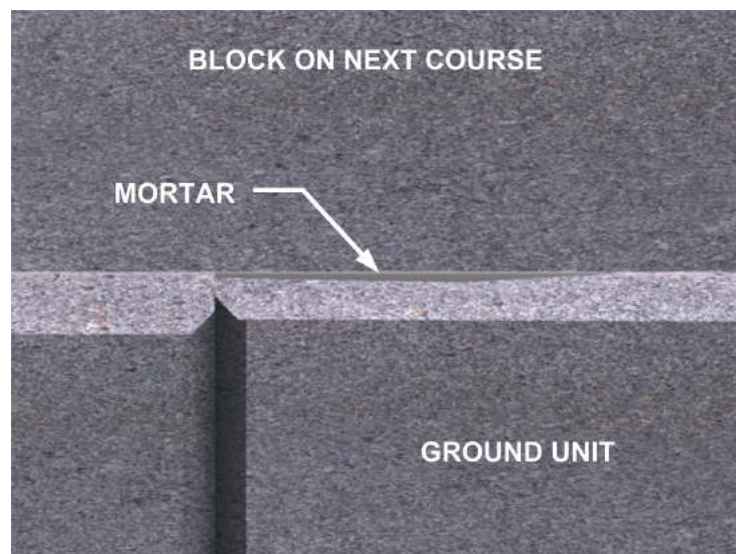

Fig. 5.34
3. Satisfied that sufficient material has been removed from the high unit, spread a small amount of mortar in the ground area and place another unit above it for the next course (*Fig. 5.34*). The mortar will act as a filler compensating for the height difference. Tap on that top unit until it is perfectly seated and excess mortar is squeezed out. Check with a level to ensure that the unit on the second course is level and plumb.